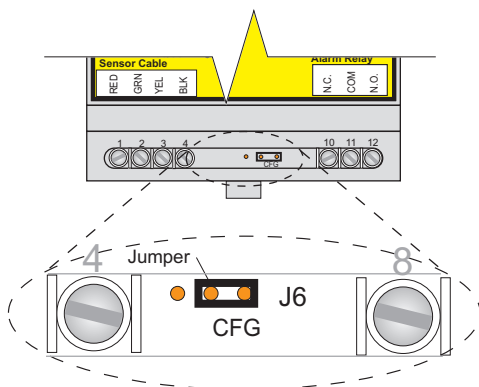

Figure 7a. Configuration Jumper in Configuration Position
- Place the TTSIM-1A configuration jumper in the CFG position, as shown in Figure 7a.